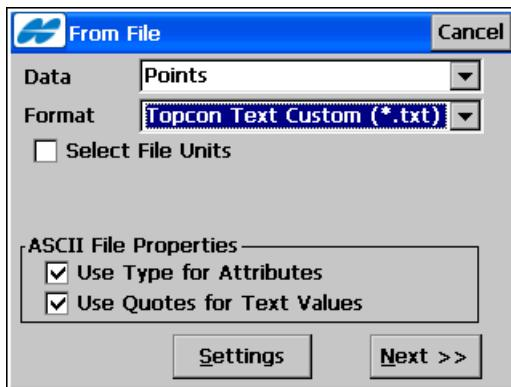

Figure 5-15. Import From Text File
If the *Text Custom* format is selected, the ***From File*** screen (Figure 5-15) has an *ASCII File Properties* field.
- *ASCII File Properties* – defines the condition of the imported file interpretation. Check and enable *Use Type for Attributes* and *Use Quotes for Text Values* (one or both). These conditions use the same type for the attributes and quotes for the text values (Figure 5-15).